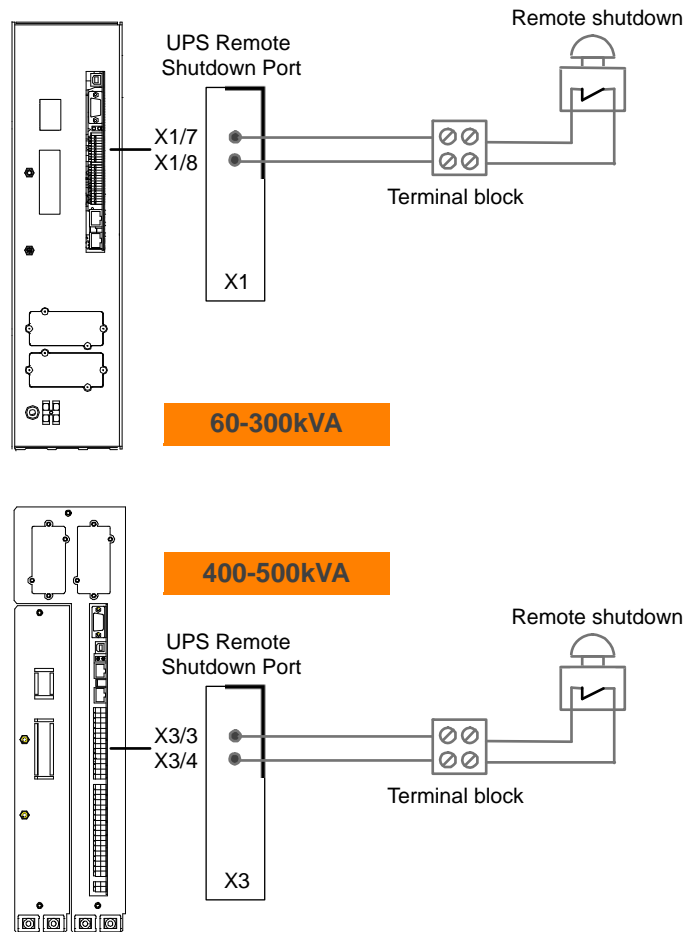

Figure 7.3 Remote emergency stop cabling
The remote stop facility comprises a normally-closed circuit connected between terminal X1/7 and X1/8 (or X3/3 and X3/4) on the communication card located on the Kohler PW 6000 front frame (see Figure 7.3).
2. Connect the cable as shown in Figure 7.3.